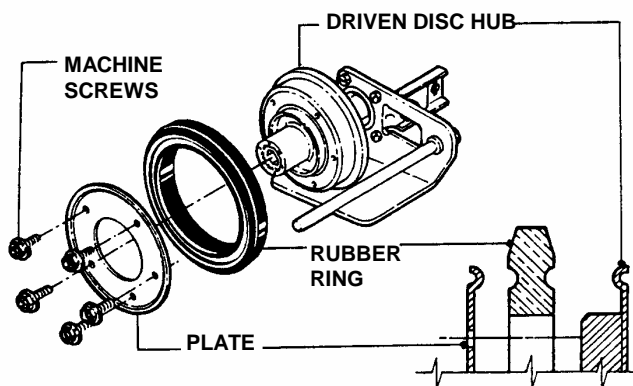

FIGURE 4.12
3. Remove the five machine screws and plate, which secure the rubber ring to the driven disc hub. See Figure 4.12.